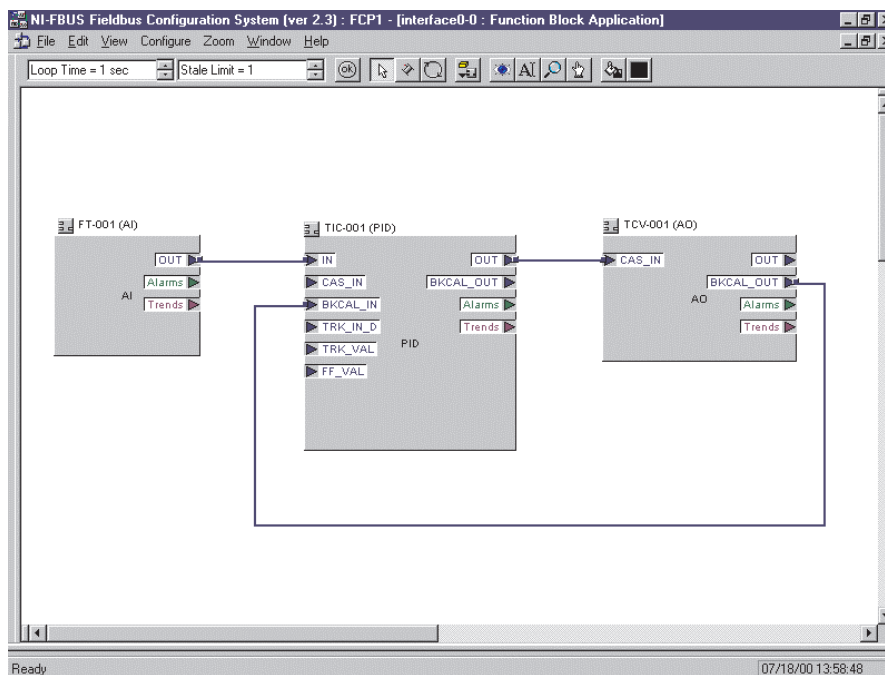

Fig. 50: Connecting function blocks using the NI-FBUS Configurator
22. System configuration/connection of function blocks (Fig. 50):